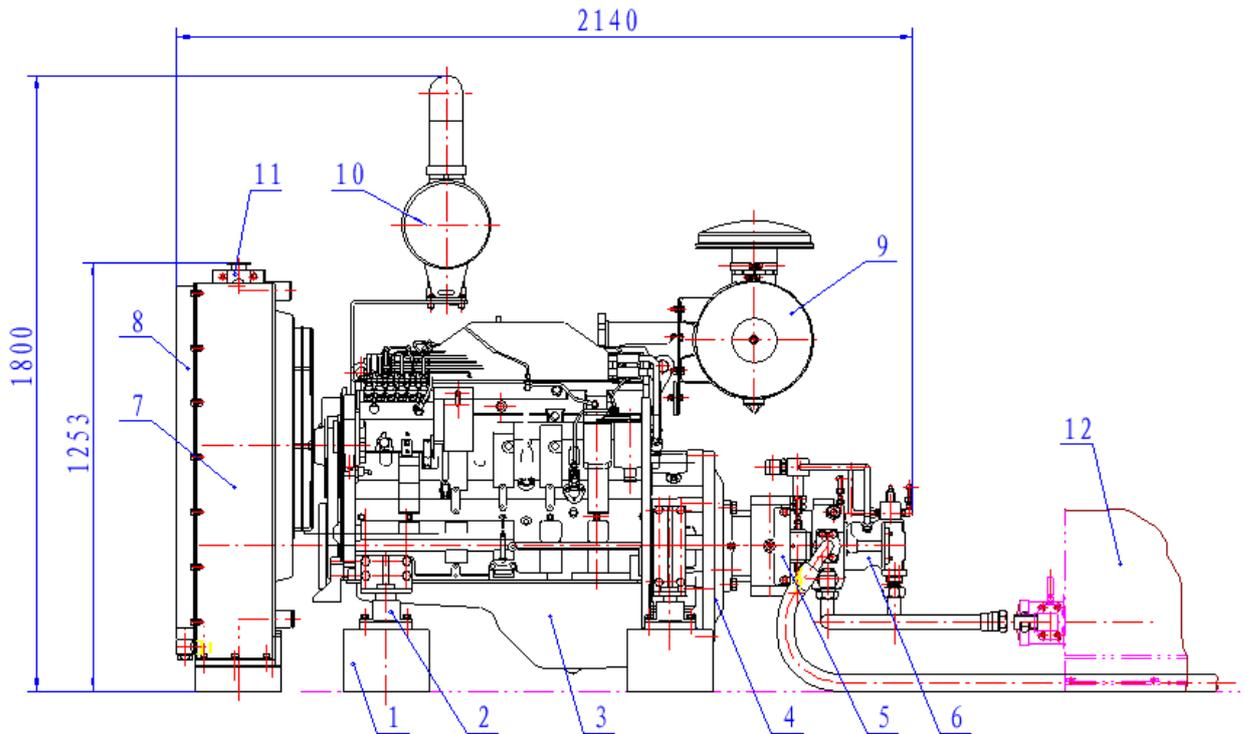

Fig.2-2: Motor-pump set
2. Diesel-Pump Unit: The pump unit comprises of diesel engine and hydraulic oil pump unit, as indicated in Fig 2-2. The double pump is installed and fixed on the Flywheel Housing Flange (3) after being connected in series, and the input shaft of the pump unit is connected with the flywheel of diesel engine inside the flywheel housing through coupler.